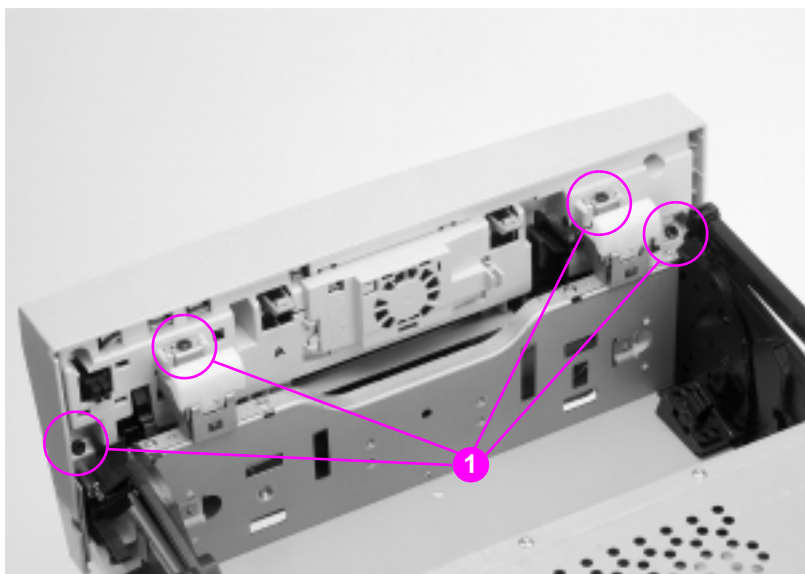

Figure 6-7 Upper front drawer cover removal and replacement
- 2 Remove the four black screws from the inside of the drawer cover as shown in Figure 6-7.